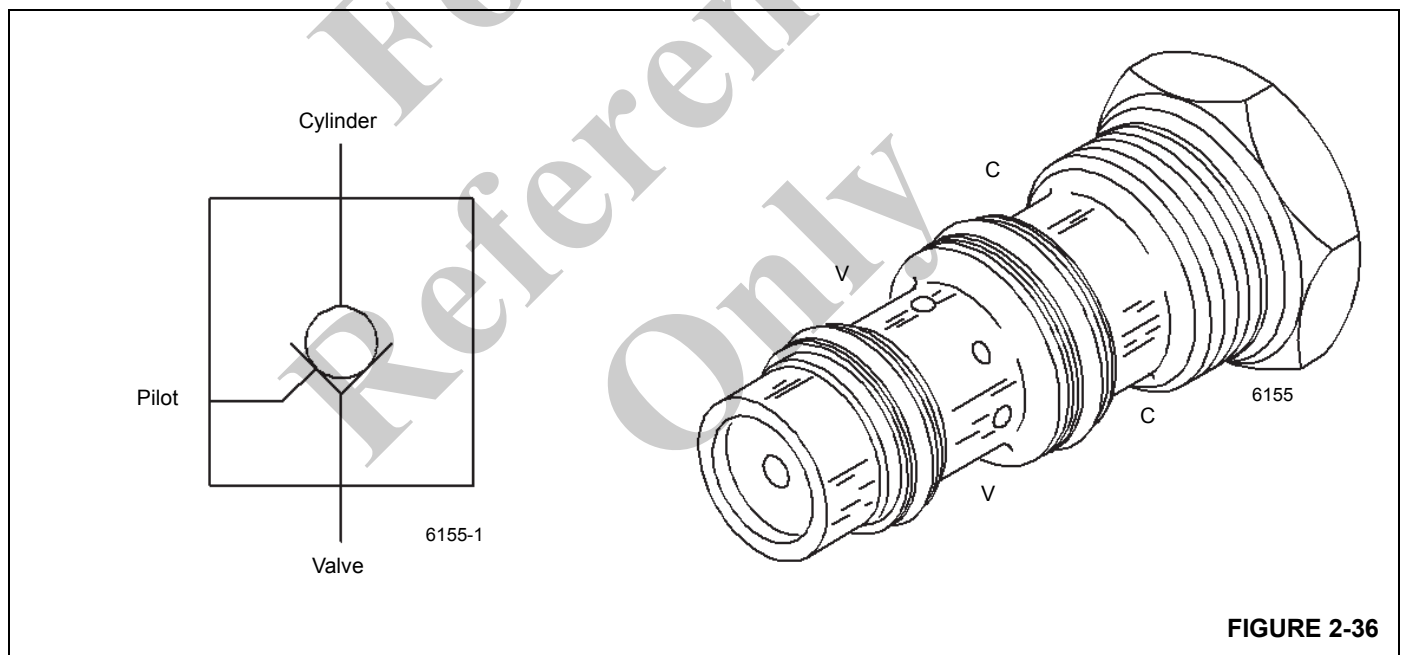

FIGURE 2-36
A pilot operated (PO) check valve is located in each outrigger jack cylinder port block (Figure 2-36). The check valve functions as a holding valve for the jack cylinder. Oil flow is directed from the "V" port to the "C" ports, while blocking flow in the opposite direction. Flow is reversed from "C" to "V" when pressure pilot oil is applied to the opposite side "V" port.